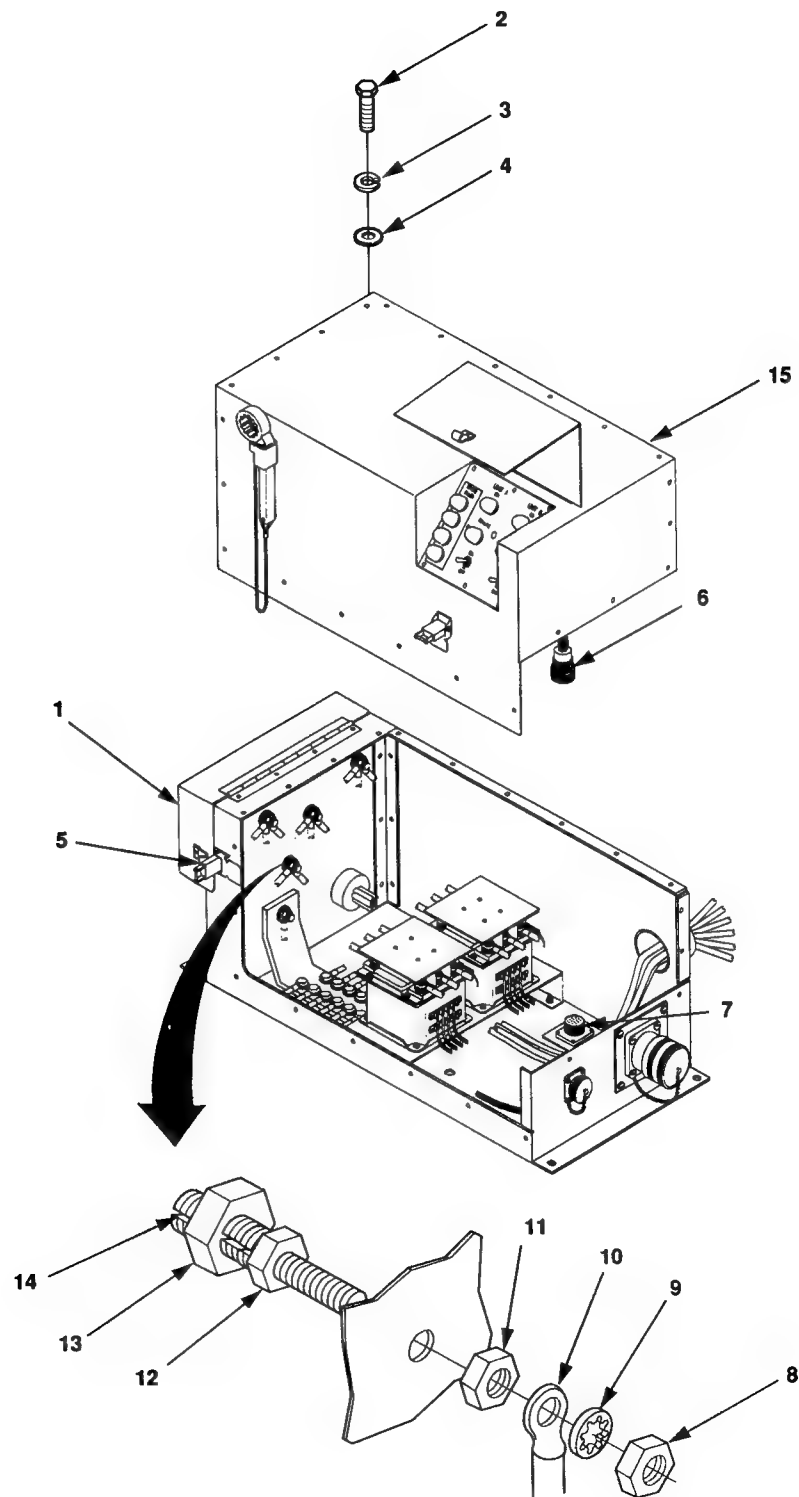

Figure 4-14. Switch Box Load Terminal Maintenance.
1. Remove 21 screws (2, **figure 4-14**), lock washers (3), and flat washers (4).
2. Release clamping catch (5) and open load terminal door (I).
5. Close load terminal door (1, figure 4-14) and secure with clamping catch (5).